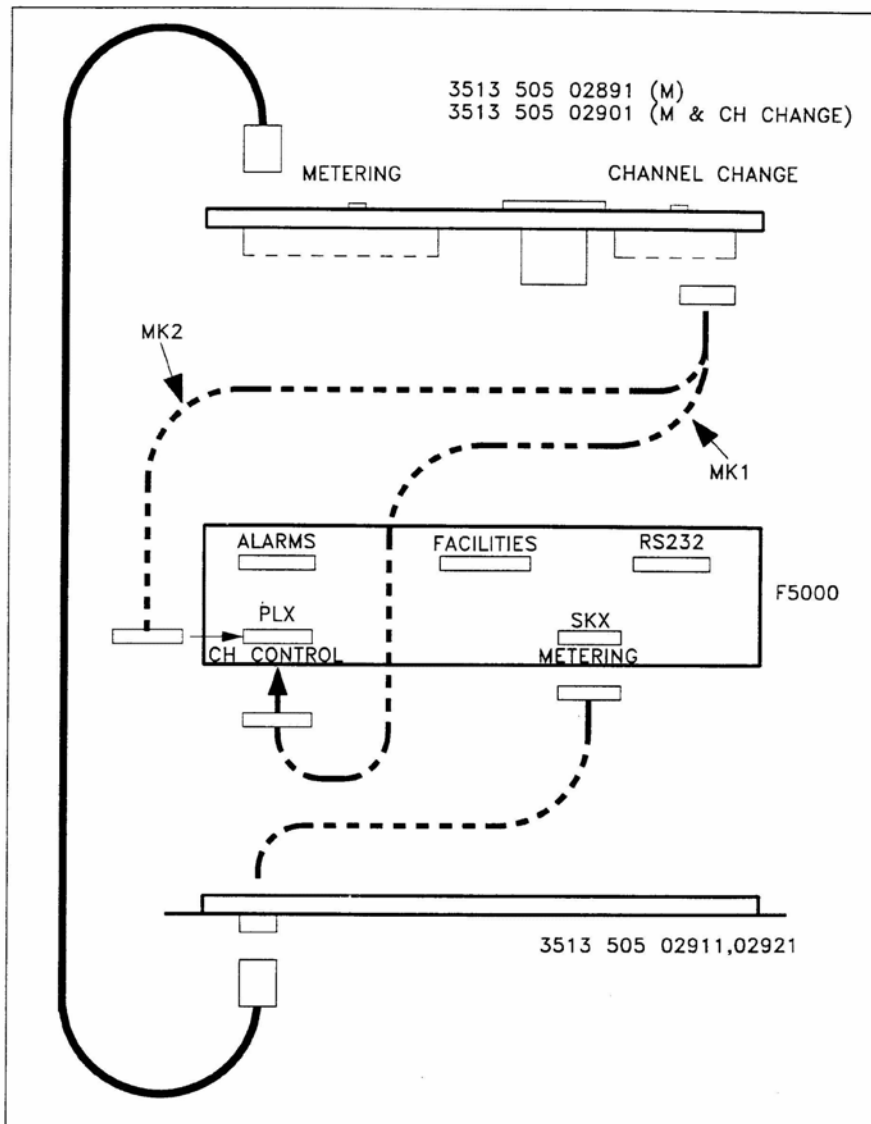

Fig.1 Interconnections
- 2 Referring to Fig.1 connect the Patch Cable Assembly between the Interface Panel and the Metering/Channel Facilities Panel.
- 1 Referring to Fig.1 connect the appropriate Channel Change Lead Assembly between the FX5000 backplane CHAN SW plug (PLX) and the Metering/Channel Facilities Panel.